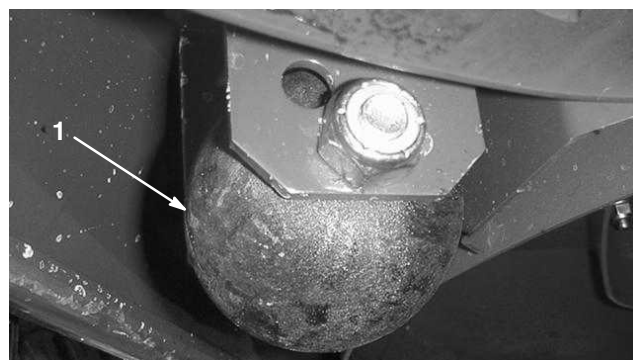

Figure 19
1. Remove the capscrew and nut securing the gage wheel to the cutting unit brackets (Fig. 19).